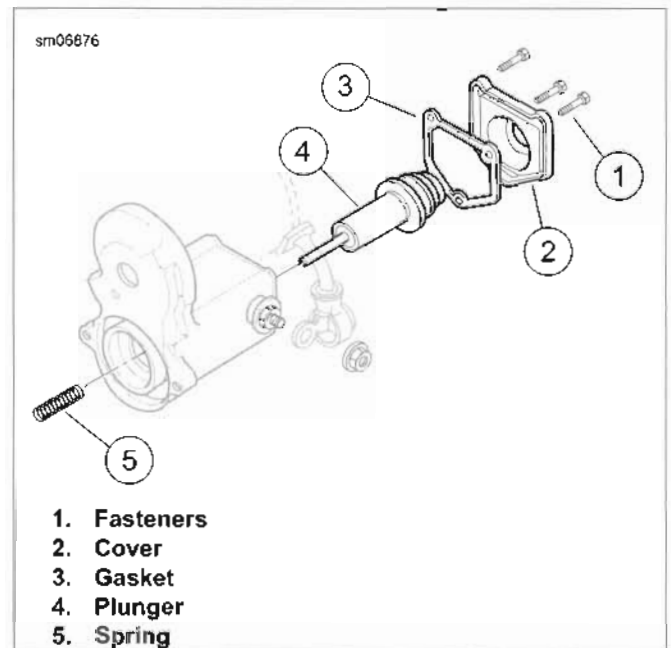

Figure 7-27. Solenoid Plunger
1. See Figure 7-27. Remove fasteners (1), cover (2) and gasket (3).
2. Remove the plunger (4) with spring (5).